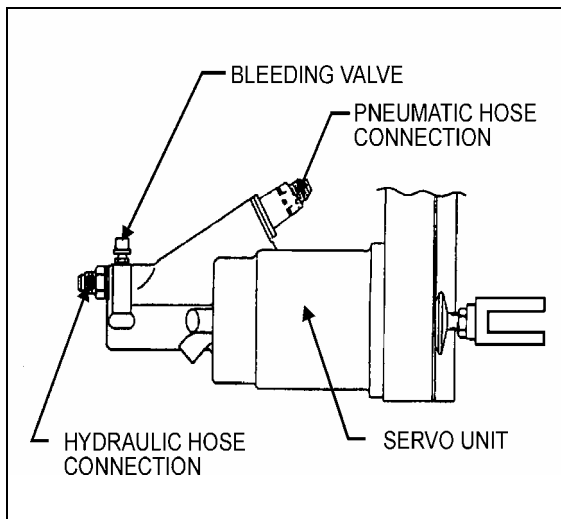

FIGURE 6: SERVO UNIT 02002
- FIGURE 6: SERVO UNIT02-5
2. Connect a plastic tube to the bleeding valve (Fig. 6). Dip the other end of the tube in a jar containing several inches of clean brake fluid.
2. Slightly loosen teflon flexible hydraulic hose connector from adapter mounted on extremity of servo unit (Fig. 6).
The pneumatic air line filter should be cleaned every 6,250 miles (10 000 km) or twice a year, whichever comes first (Fig. 6). The filter is mounted inside the servo unit pneumatic branch.